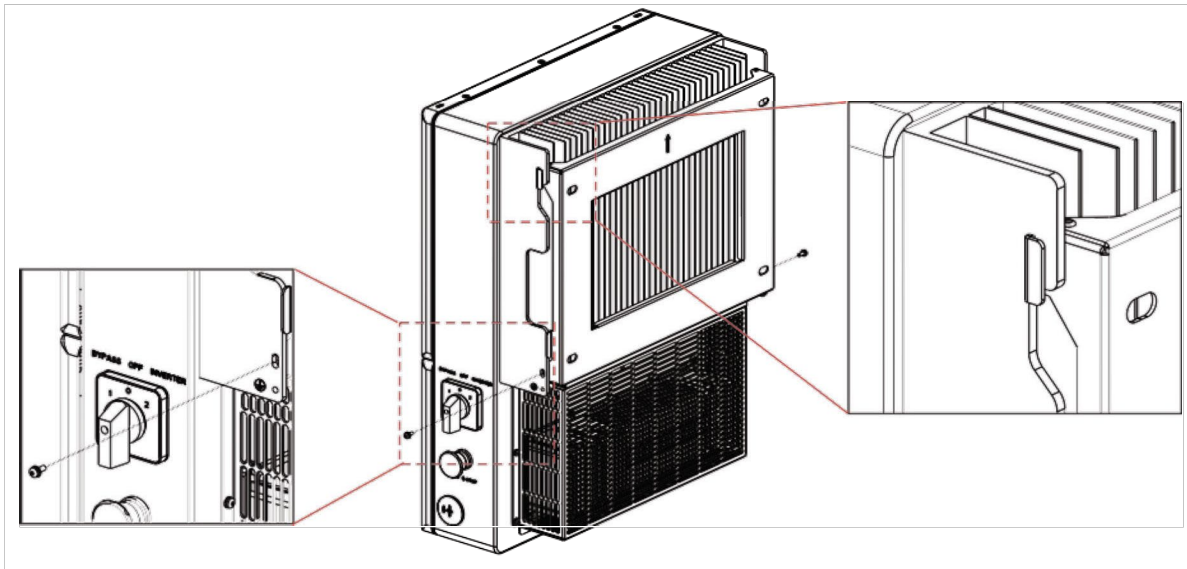

Figure 5.18 Inverter on mounting bracket and set screws
- Then install the two set screws that are included with the inverter for stabilization. (see Figure 5.18)